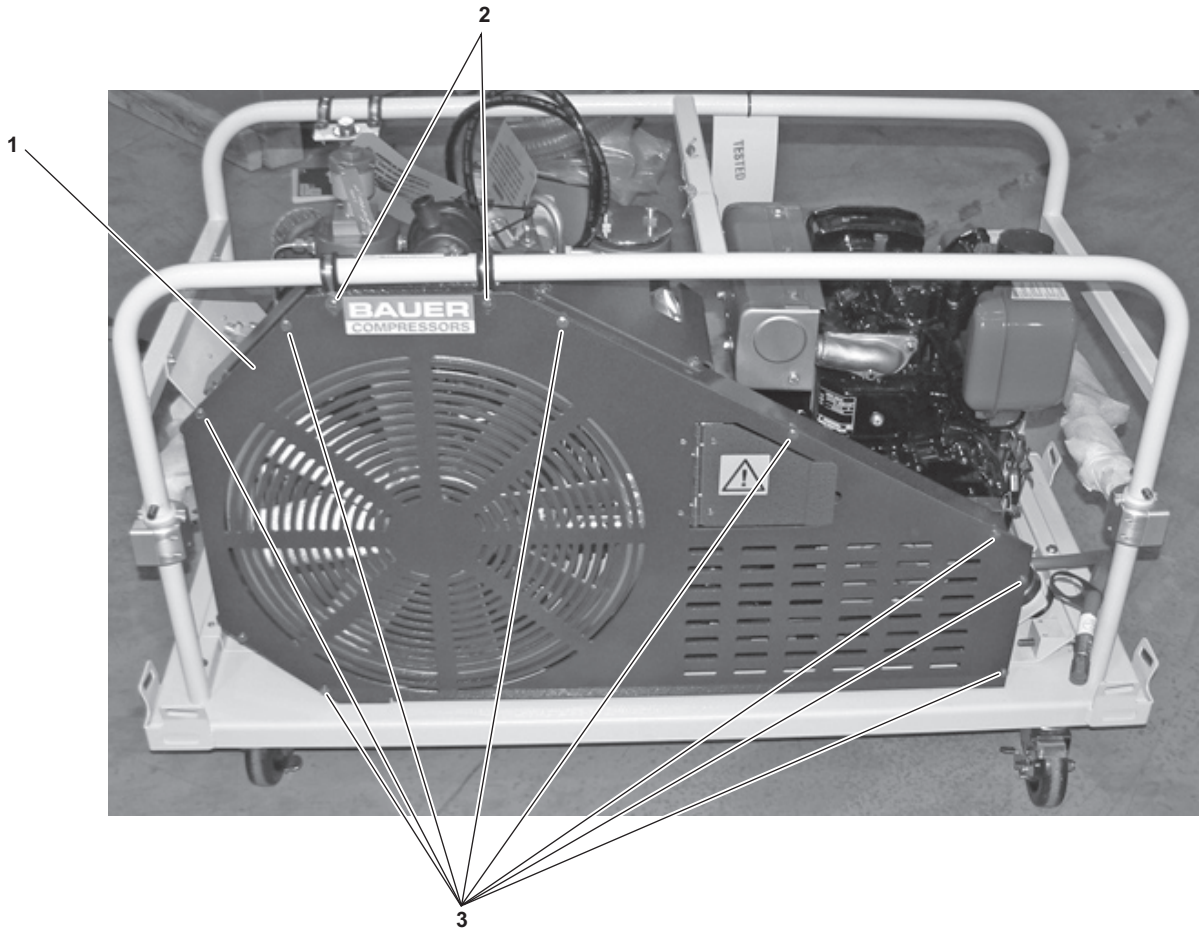

Figure 6-1. Locations of Bolts Securing the Outer Belt Guard to the Cowling
- (2) Remove the nine bolts, nuts, and washers (figure 6-1, item 1) that secure the outer belt guard to the cowling by holding a 3/8 inch wrench on the inside nut while turning a 5/16 inch socket on drive ratchet CCW to loosen and remove the bolts. The top two bolts (figure 6-1, item 2) are longer.
- (3) Remove the outer belt guard (figure 6-1, item 3) and set it aside with all of the nuts, bolts, and washers.
- (1) Set the outer belt guard (figure 6-1, item 3) in place, aligning the holes on the outer belt guard with the holes in the cowling.
- (2) Attach the outer belt guard to the cowling by first installing the two longer bolts (figure 6-1, item 2). Slide the washer onto the bolt, then insert the bolt into the hole. Slide another washer onto the protruding end of the bolt and secure with the nut.
- (3) Tighten the bolts and the nuts using a 3/8 inch wrench on the nut to hold it in place while turning a drive ratchet with 5/16 inch socket CW until snug.
- (4) Install the remaining nine bolts (figure 6-1, item 1) by sliding the washers onto the bolts, inserting the bolts into the holes, then sliding a second washer onto the protruding end of the bolt and securing it with the nuts. Tighten all bolts and nuts using a 3/8 inch wrench on the nut to hold it in place while turning a drive ratchet with 5/16 inch socket CW until snug.